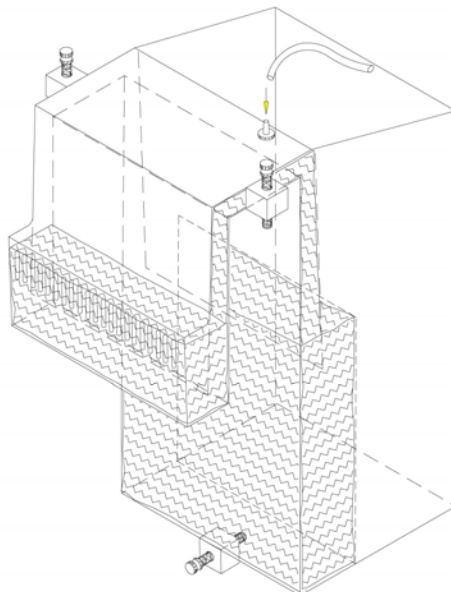

Fig. 3
9. Plug in the return pump. The flow rate of the return pump should closely match up with the overflow rating of your CS Overflow model. Issues may arise if the return pump flow rate is significantly different than the recommended overflow rating. Keep an eye on the water level in the tank after the pump is plugged in to make sure the overflow starts its siphon. Water should start draining down the overflow.(FIG 3) Look into the side of the overflow box for any air pockets accumulating at the top. At this point, direct your attention to the sump to make sure the return pump is still completely submerged, or that the sump is not overflowing. It may be necessary to add or remove water from the sump at this point. Continue to monitor both the tank and the sump for a few minutes to ensure that the system is working consistently.